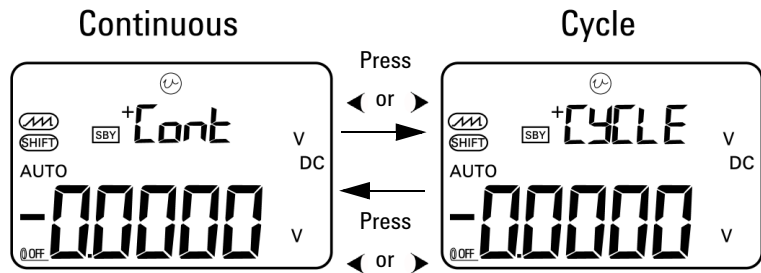

Figure 2-4 Selecting autoramp output mode
- 4 After selecting the required  function, press ◀ or ▶ to select one of two modes: Continuous or Cycle. The secondary display will indicate **Cont** or **CyCLE**, respectively (Figure 2-4 on page 38).